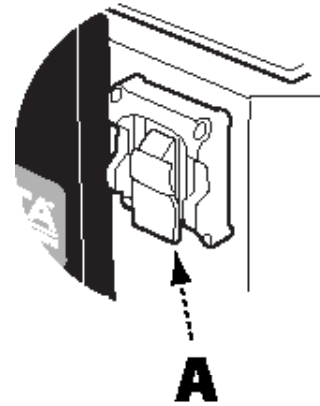

FIGURE 11
The On/Off switch (A), indicated in Figure 11, is located on the front of the jointer cabinet. To turn the machine "ON," move the switch to the up position. To turn the machine "OFF," move the switch to the down position.